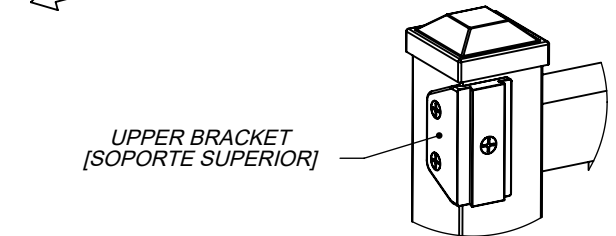

Figure 2
STEP [PASO] 2: Install the Upper Bracket using (3) Flat Head Screws as near to the top of the Fence Post as possible (Figure 2). [Instale el soporte superior utilizando (3) tornillos de cabeza plana lo más cerca posible de la parte superior del poste de la cerca (Figure 2).]